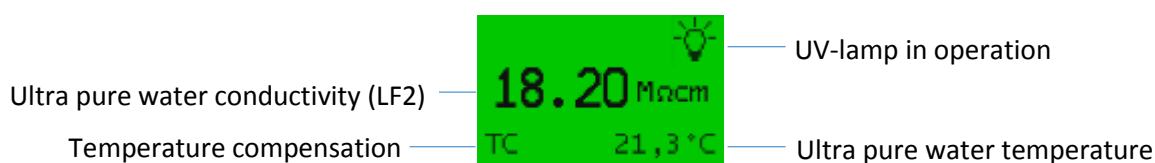

Figure 11: Main display
The main display (refer to page 21 Figure 11: Main display) is automatically shown when the system is switched on. It provides information on the actual system condition and shows you the measured value of the conductivity at the withdrawal point (LF2) in the unit that has been set ( $\mu\text{S}/\text{cm}$  or  $\text{M}\Omega\text{cm}$ ) as well as the temperature of the ultra pure water. Further to this, it shows if the conductivity measurement is made with temperature compensation (TC) or without it (NTC). If your version is an OmniaPure UV, UV/UF, UV-TOC or UV/UF-TOC the lamp symbol provides information on the operating condition of the UV-lamp when it is switched on.